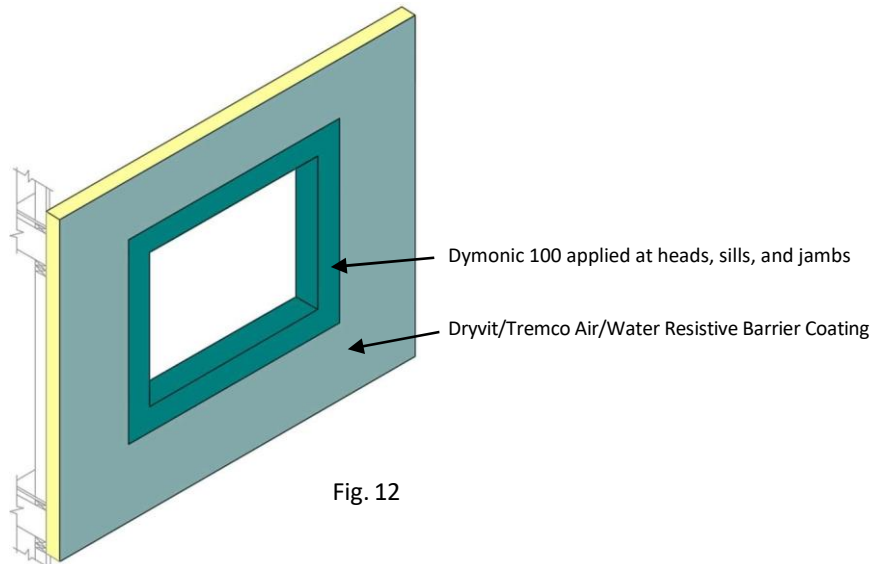

Fig. 12
C. Tremco Dymonic 100 Option – Figure 12.